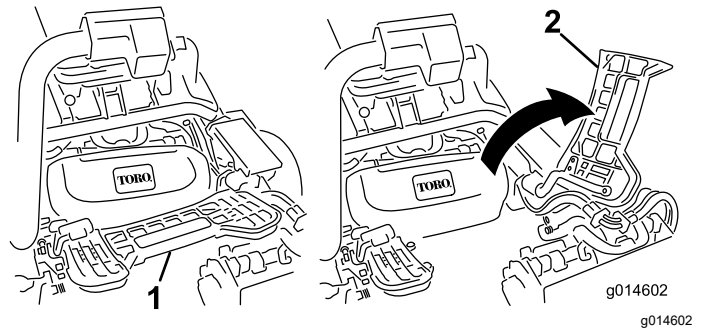

Figure 50
2. Lift up on the foot rest and swing it open, allowing access to the center cutting unit position (Figure 50).